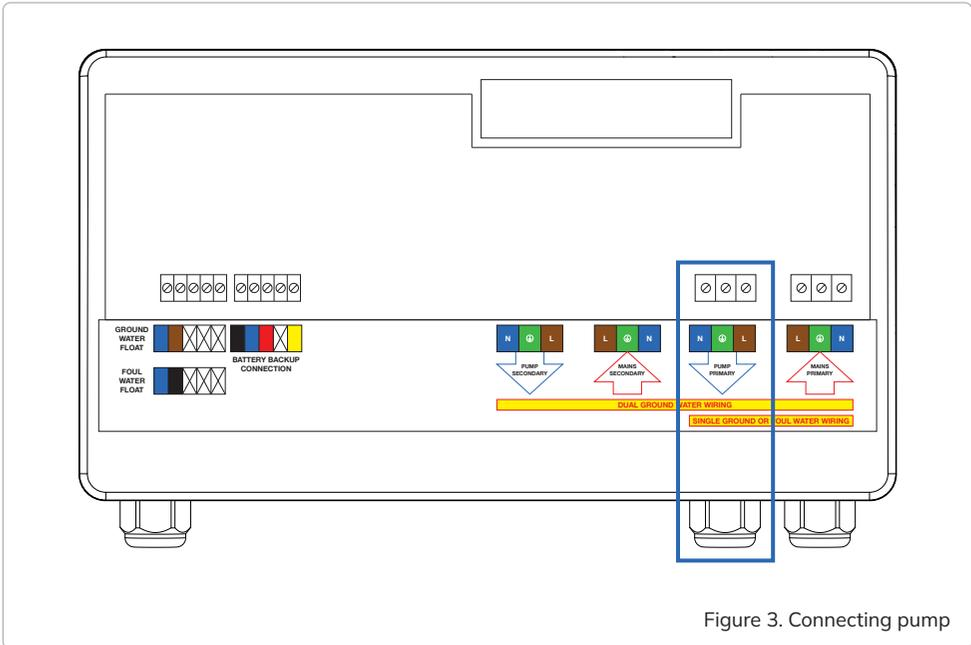

Figure 3. Connecting pump
1. Using the remaining cable gland previously installed in section 9.0, feed the pump cable through the gland and connect to the corresponding terminal block on the main PCB (figure 3).